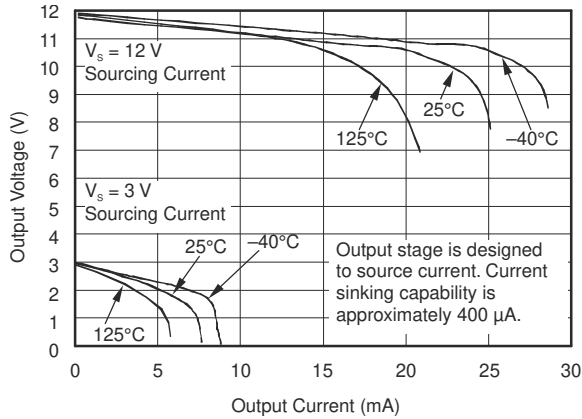

图 6-7. Positive Output Voltage Swing vs Output Current
- (1) Total output error includes effects of gain error and V_{OS} .
- (2) See Figure 6-7.
- (3) Specified by design
- (4) For details on this region of operation, see Section 7.4.2.